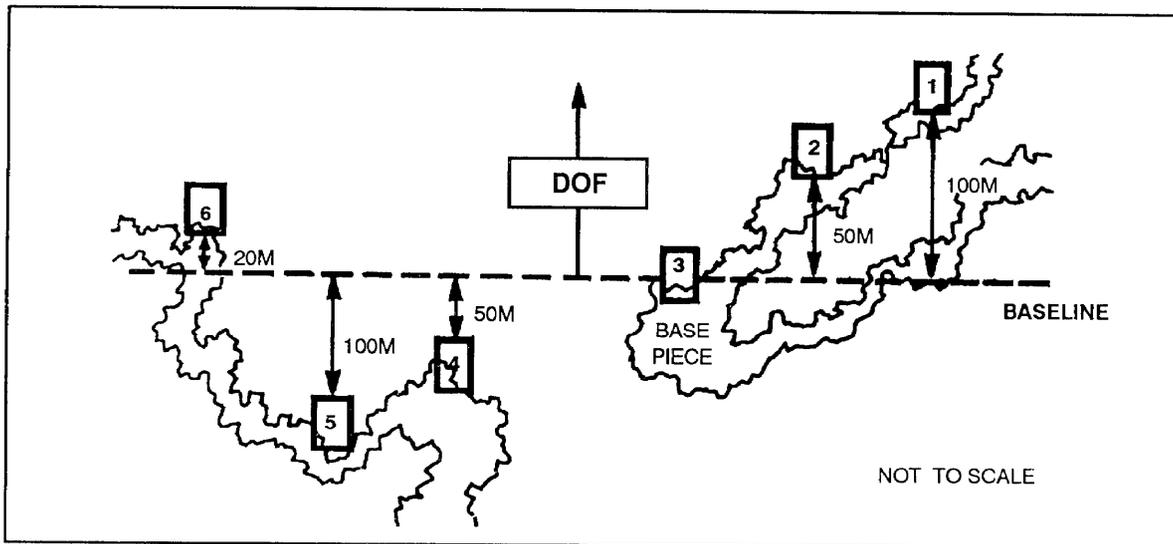

Figure 7-19. Hasty positioning with respect to terrain.
**c. Hasty Terrain Mortar Positions.** When the advance party cannot conduct a reconnaissance of a mortar position due to time constraints or hasty occupation of a hip-shoot position, TMPCs cannot be computed before mortar crews occupy the position. Therefore, a modified technique of terrain mortar positioning can be used that still allows near-maximum use of the terrain. This provides cover and concealment for the platoon while placing acceptable sheafs on target (Figure 7-19, see page 7-24).
(1) To use the modified technique, the platoon occupies the position, conforming to the folds and treelines of the terrain. It maintains a lateral dispersion between mortars equal to the bursting diameter of an HE round of that mortar system.
(2) An imaginary line (baseline) is drawn through the base piece perpendicular to the direction of fire (azimuth of lay). From this line, the squad leader determines the distance to his mortar. Mortars, other than the base piece, will either be on line with, forward of, or behind the base piece. A squad member can measure the distance from the baseline while the squad leader lays or estimates the mortar. This distance is referred to as the *position range correction* and is recorded for future use by the squad leader. It is also given to the FDC for future use in computing TMPCs for the left and right sectors of fire. The squad leader applies this position range correction to the command data. The FDC issues the correction for a fire mission in the same manner as described in applying normal TMPCs.